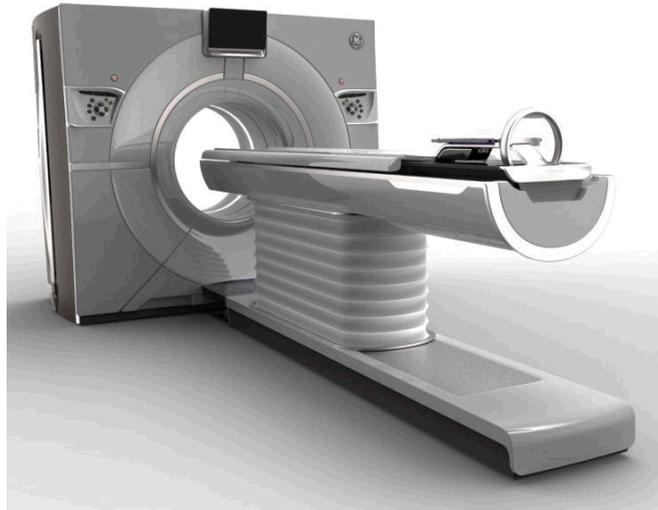

Figure 1: The new GE Discovery CT870 HD scanner, known internally as the Revolution CT scanner.
The GE Discovery CT870 HD shown below in Figure 1 is the next generation scanner in GE's line of Computed Tomography (CT) products. This scanner is also called the "Revolution" CT scanner.